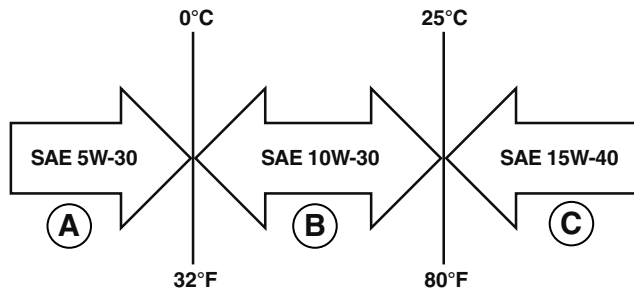

Figure 32 – Recommended Oil
1. Only use the engine oil specified in *Figure 32*.
7. Select the proper engine oil as specified in *Figure 32*.